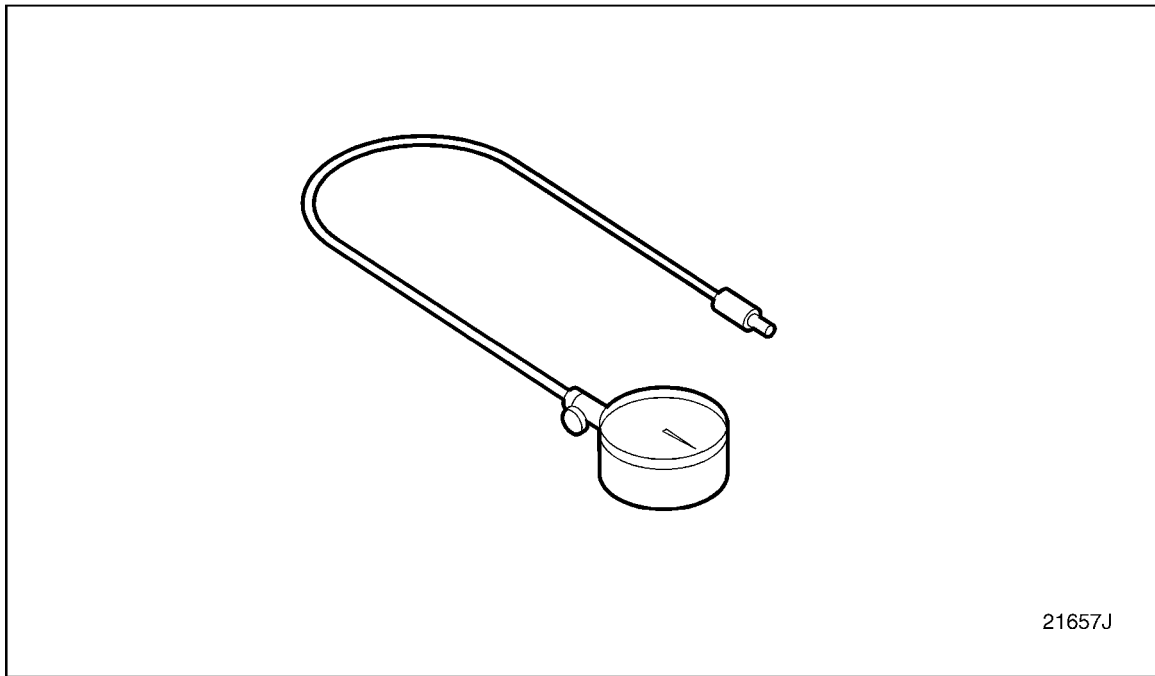

Figure 2-2 Attach Cylinder Compression Gauge J 6692-B
18. Attach cylinder compression gauge (J-6692-B) to the first adaptor. See Figure 2-2.